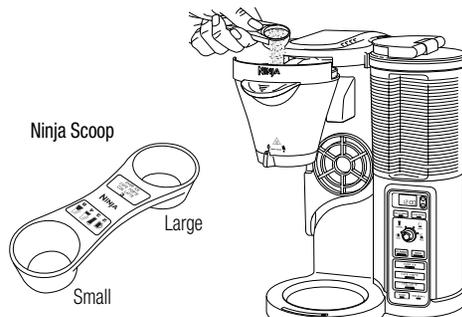

Fig. 15a
- 3 Use the Ninja Scoop (Fig. 15a) and follow the measurements below to fill the filter. These measurements are based on level scoops.